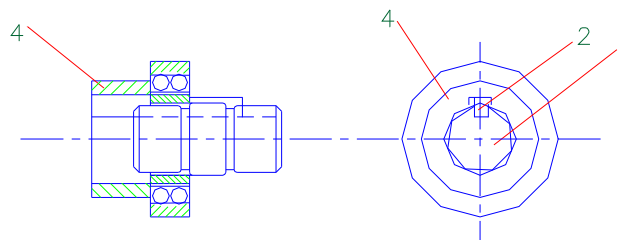

Fig.3
- 5) Using the bushing-4, Press ball bearing and key together on to the pin. (See Fig.3)